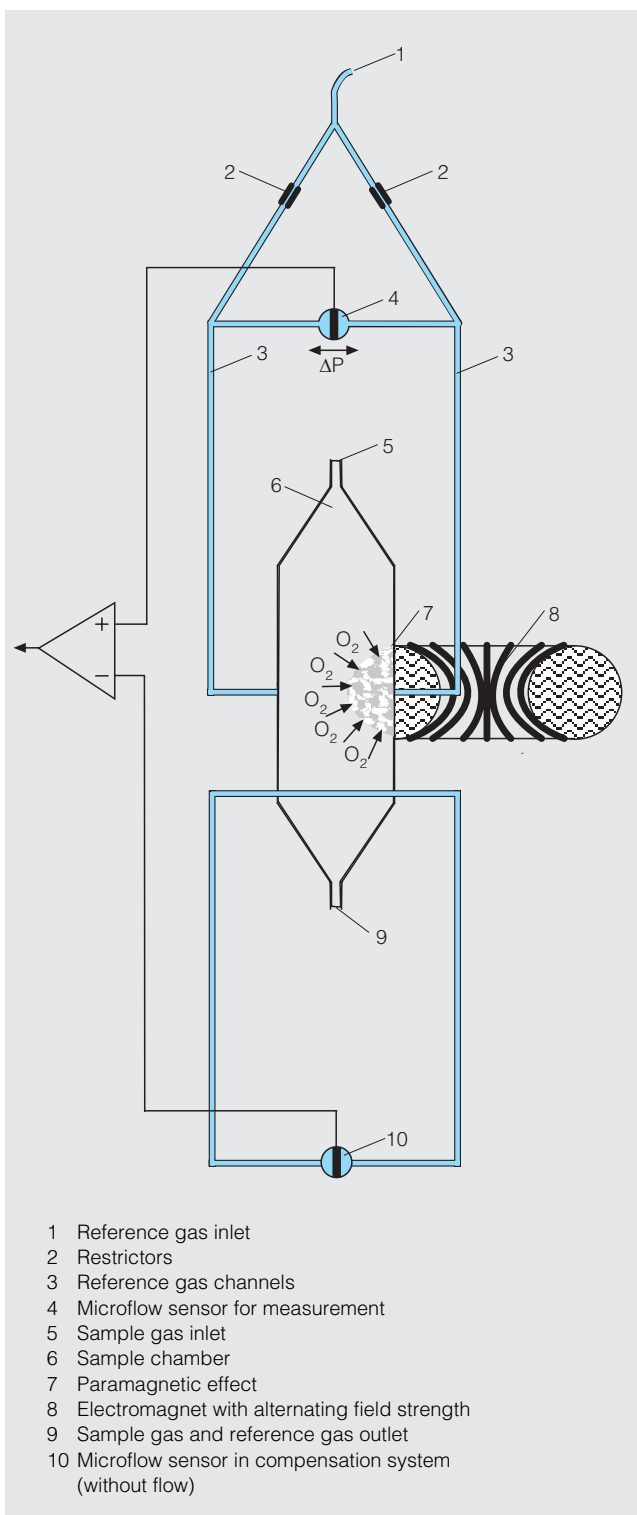

Fig. 2 OXYMAT 6, mode of operation
In the case of **OXYMAT 6**, one gas (1, Fig. 2) is a reference gas (N_2 , O_2 or air), the other is the sample gas (5). The reference gas is introduced into the sample chamber (6) through two channels (3). One of these reference gas streams meets the sample gas within the area of a magnetic field (7). Because the two channels are connected, the pressure, which is proportional to the oxygen concentration, causes a cross flow. This flow is converted into an electric signal by a microflow sensor (4).